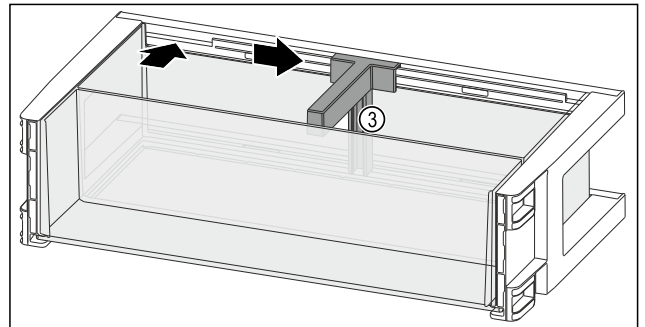

Fig. 95
- Insert the bottle holder Fig. 95 (3) in the recess.
- Push the bottle holder Fig. 95 (3) to the desired position to the side.